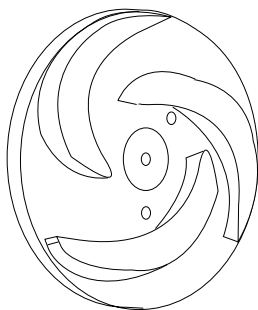

FIGURE 32. Semi-Open Impeller
- The semi-open impeller incorporates a shroud or an impeller backwall (Figure 32). This shroud may or may not have “pump-out” vanes, which are located at the back of the impeller shroud.